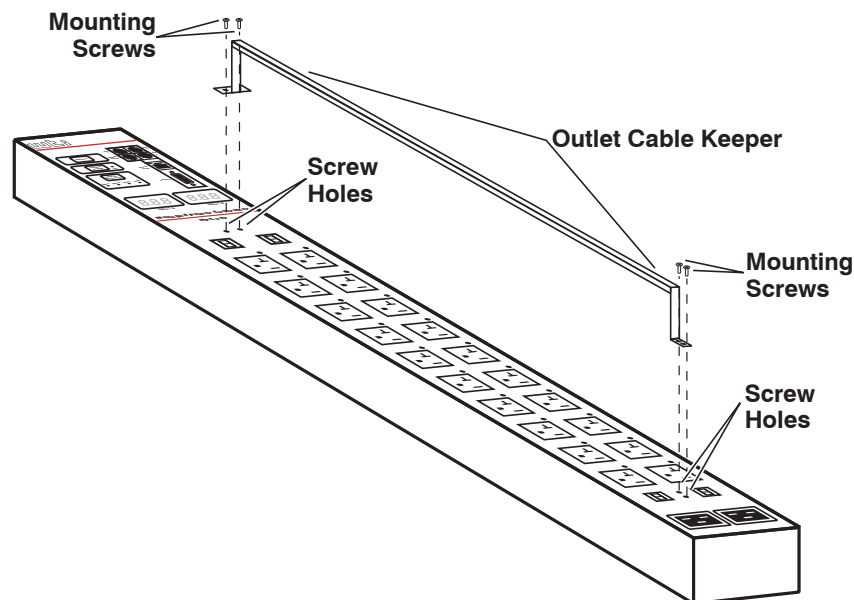

Figure 8: Installing the Output Cable Keeper (MPC-20V Units Only)
2. Align the Output Cable Keeper with the face of the MPC-20V unit as shown in Figure 8 below. Note that there are two horizontally aligned screw holes at the top of both the MPC-20V unit, and two vertically aligned screw holes at the bottom of the MPC-20V unit. Use the supplied mounting screws to securely attach the Cable Keeper to the face of the MPC-20V unit.